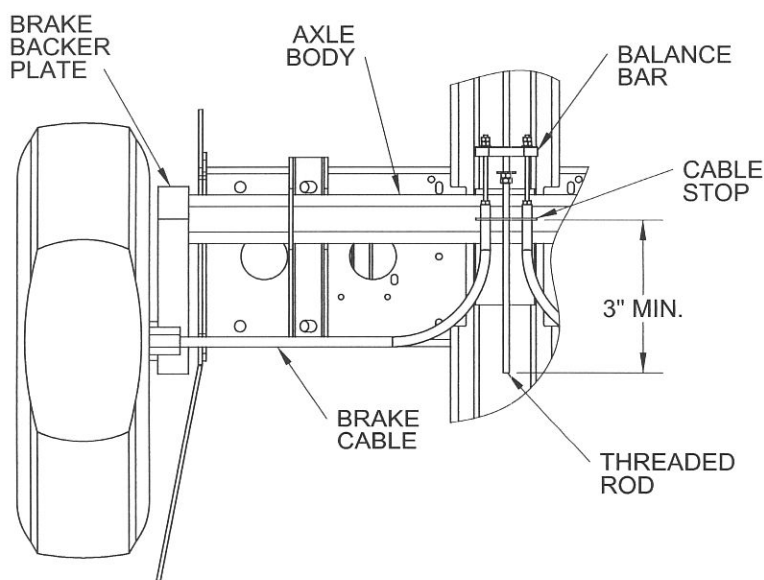

Figure 9-1. Standard Brake Adjustment Procedure
1. All brake adjustments must be done with the aerial work platform's wheels off the ground, with the **ROD** and **BRAKE CABLES** completely slack (no tension). Refer to Figure 9-1 for steps 2 through 7.